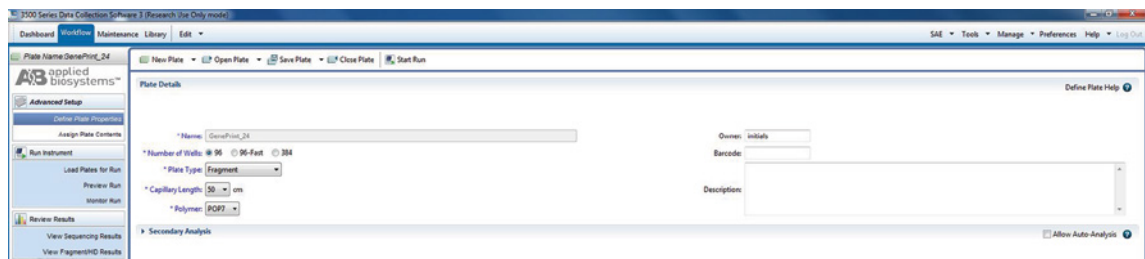

Figure 9. Defining plate properties.
- b. Assign a descriptive plate name. Select the plate type **Fragment** from the drop-down menu (Figure 9).